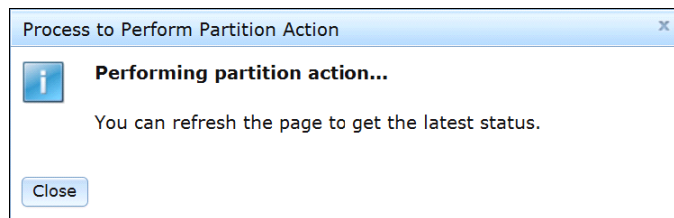

Figure 5-78 Partition progress panel
- A progress window opens, as shown in Figure 5-78. You can track the progress of the partitioning by refreshing the page.